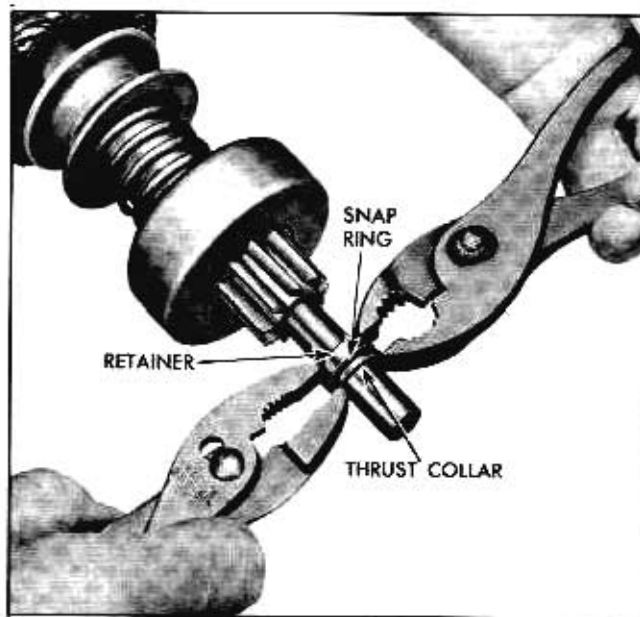

Fig. 11-35 Forcing Retainer Over Snap Ring
e. Assemble thrust collar on shaft with shoulder next to snap ring (Fig. 11-35).
f. Place armature flat on work bench, and position retainer and thrust collar next to snap ring. Then, using two pairs of pliers at same time (one pair on either side of shaft), grip retainer and thrust collar and squeeze until retainer is forced over snap ring (Fig. 11-35).